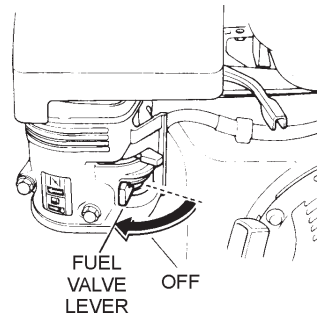

Figure 16. Fuel Valve Lever (OFF)
- Place the **fuel shut-off lever** (Figure 16) in the **OFF** position.